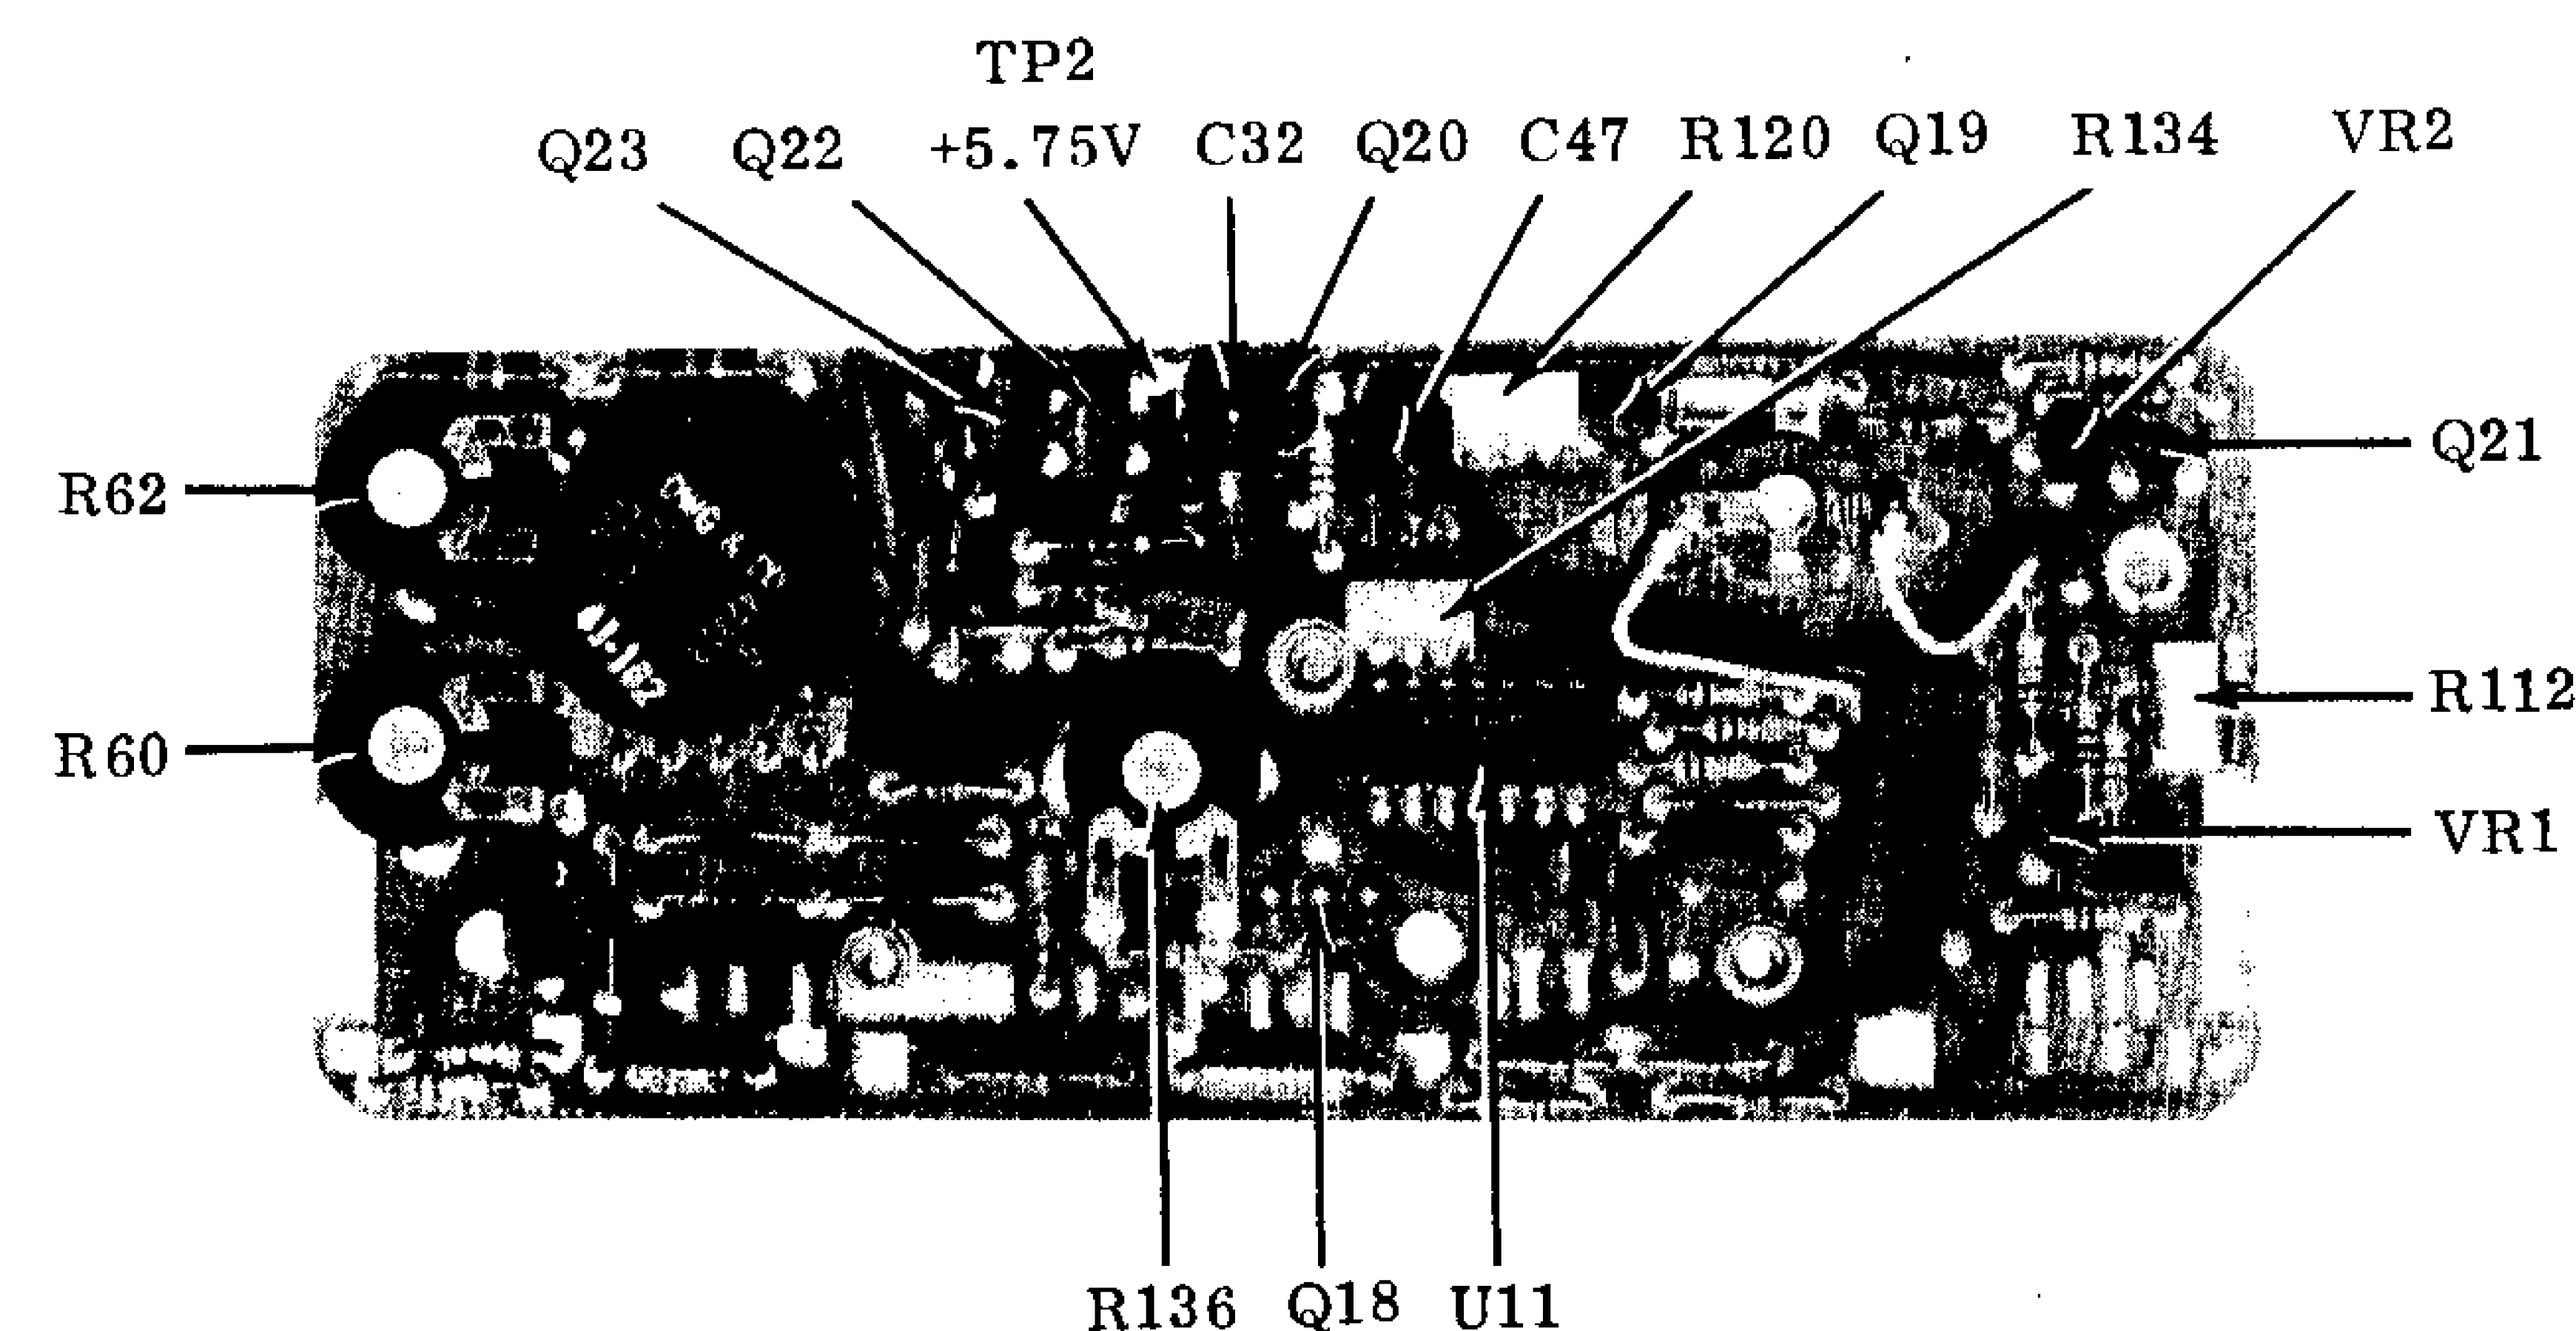

Figure 4-1. Component Location - Rear Board
3-4. Besides internal triggering, the scope can also be triggered from an external signal, the power line, or the horizontal sweep will free run if there is no triggering sources available. In following the various internal circuit descriptions below, refer to figure 3-1 - see also figures 4-1 and 4-2 for component location.
- Using another oscilloscope with vertical deflection calibrated to 1% or better, connect its ground to MS-215 ground and its input to upper fuse terminal. Also connect a 2 k $\Omega$  resistor from upper fuse terminal to ground. Adjust R112 (figure 4-1) until peak-to-peak voltage measures 7.2 VDC.
- Check to see that red power indicator LED on front panel is illuminated. If not, adjust R120 (figure 4-1) CCW and turn PWR switch off and then on again.
- e. Connect an LM-3.5A between TP2 (figure 4-1) and ground.
- f. Adjust R120 (figure 4-1) until multimeter reads +5.75 VDC.